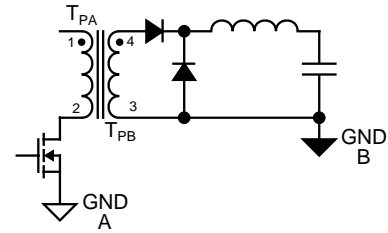

Figure 9. Forward Topology, Partial Schematic
- Forward transformers always have polarity dots at the same terminal ends and an output power inductor. See Figure 9.